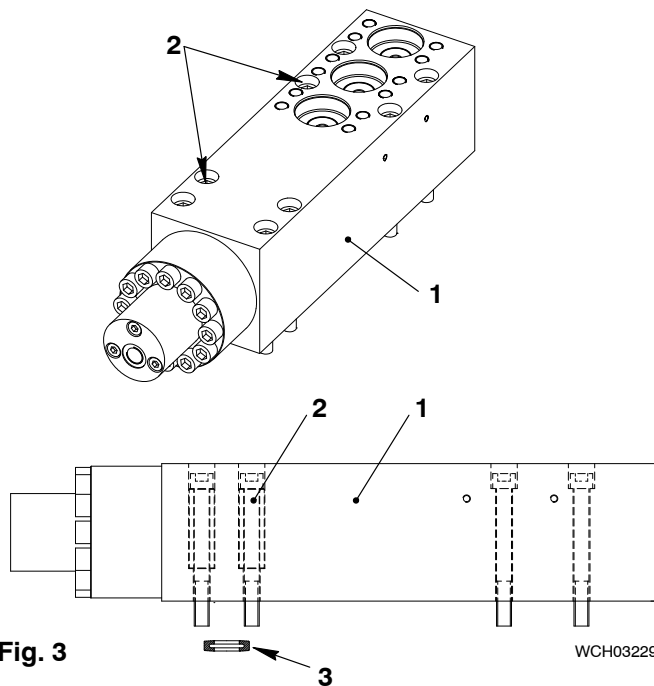

Fig. 3
- 1) Remove the eight bolts (2, Fig. 3) from the FLV (1).
- 3) Remove the lip seal (3). Make sure that you do not damage the lip seal.
- 4) Put the lip seal (3) in a safe area.
- 6) Lower the FLV (1) on to an applicable clean surface.